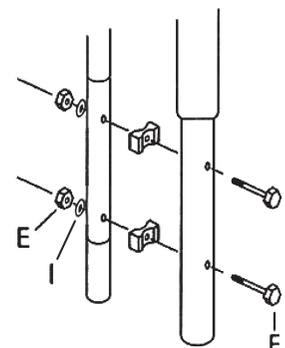

fig. 1
For this step, you may need to ask a second person for assistance who will hold the bars while you tighten the screws. In order to mount a net bar to one of the trampoline legs, you will need a bottom pipe (B), 2 screws (F), 2 adapters (K), 2 flat washers (I) and 2 nuts (E). Hold the pipe (B) in such a manner that the two holes are located on the bottom. Follow the instructions shown in Fig. 1 and push the screw through the top hole of the trampoline leg. Next, insert the flat washer and tighten the nut lightly. Repeat the same process on the bottom hole. Now secure both nuts tightly with a force of at least 10 Nm. Repeat Step 2 on all pipes required to set up the net.